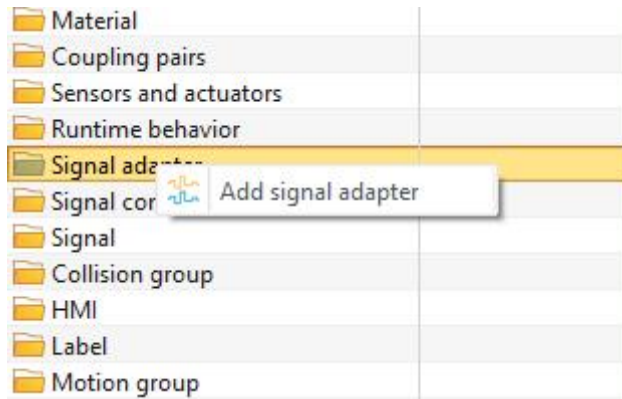

Figure 13-29: Add signal adapter
- Open the "Signal Adapter" window and select "Add Signal Adapter".(Figure 13-29)